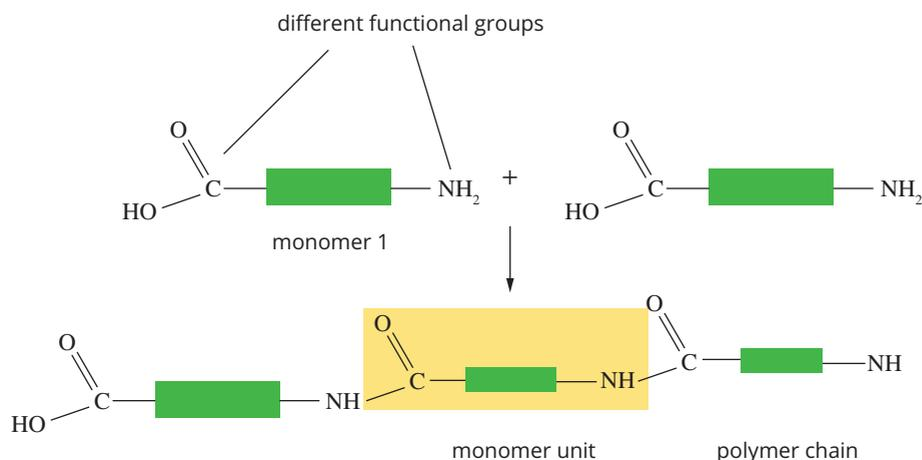

FIGURE 12.1.3 Forming a condensation polymer from a monomer that has a different functional group at each end
- With two different functional groups on one monomer, like the monomer in Figure 12.1.3 on the following page, which has an amine and a carboxyl functional group. This kind of polymer is called a homopolymer. The vast majority of biological polymers, including all the examples in this chapter, are homopolymers.